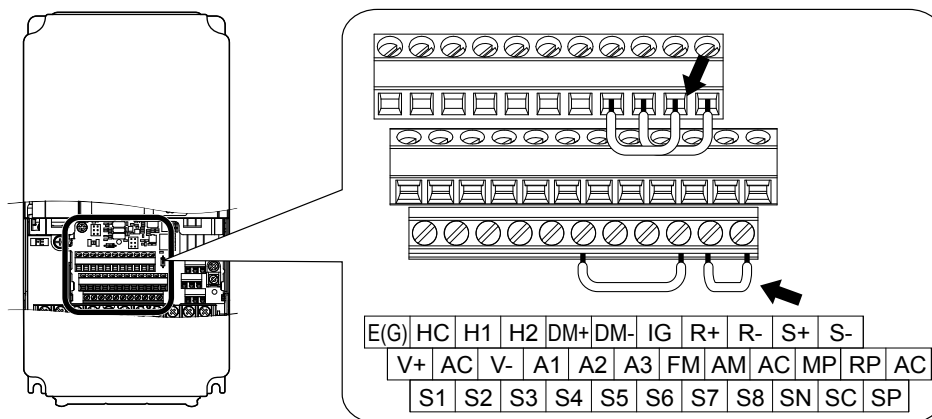

Figure C.8 Terminal Connections for Communication Self-Diagnostics
4. With the power off, wire the drive as shown in Figure C.8, connecting terminals R+ and S+, R- and S-, and S6 and SN.